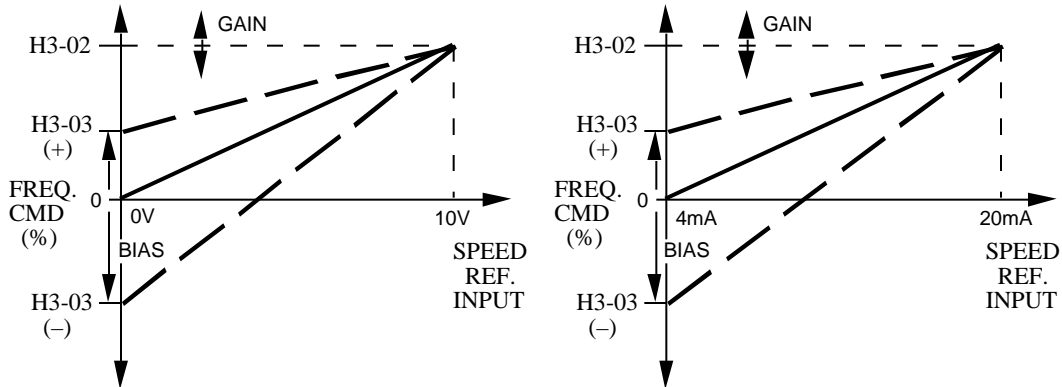

Figure 4. Frequency Command Gain and Bias Adjustments for GPD 515/G5
A. GPD 515/G5: See Table 3 and Figure 4.